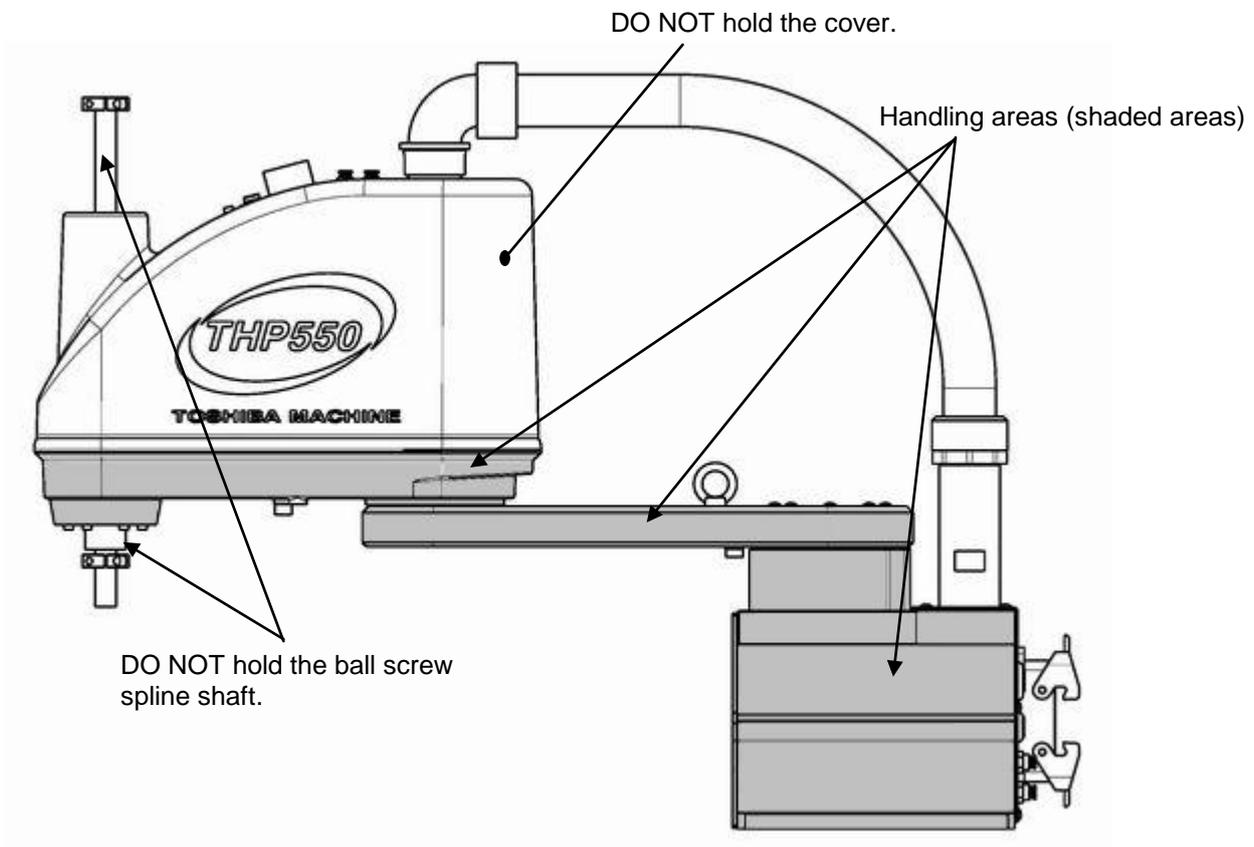

Fig. 2.4 Robot handling areas
- When lifting up the robot by workers, hold the locations (shaded areas) by hands as shown in Fig. 2.4. If the arm 2, cover or ball screw spline shaft is held by hands, an unusually large force is exerted, resulting in a malfunction.
- The work should be performed by two (2) or more workers.